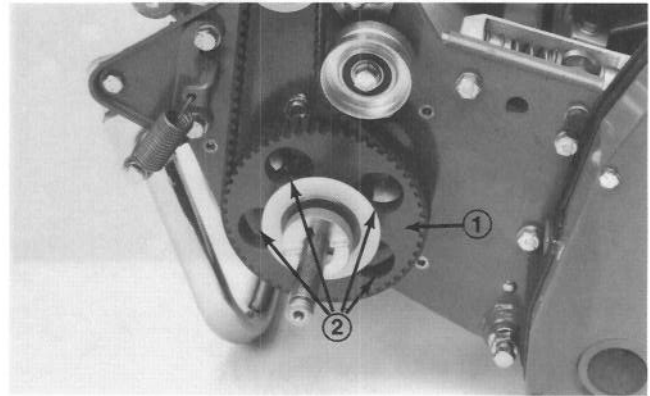

Figure 10
6. Rotate drive pulley until holes align with (4) roller bearing flange screws (Fig. 10).
7. Loosen screws. Raise or lower right side of roller assembly until the gap is reduced to less than .010". Retighten the screws. (Fig. 10).